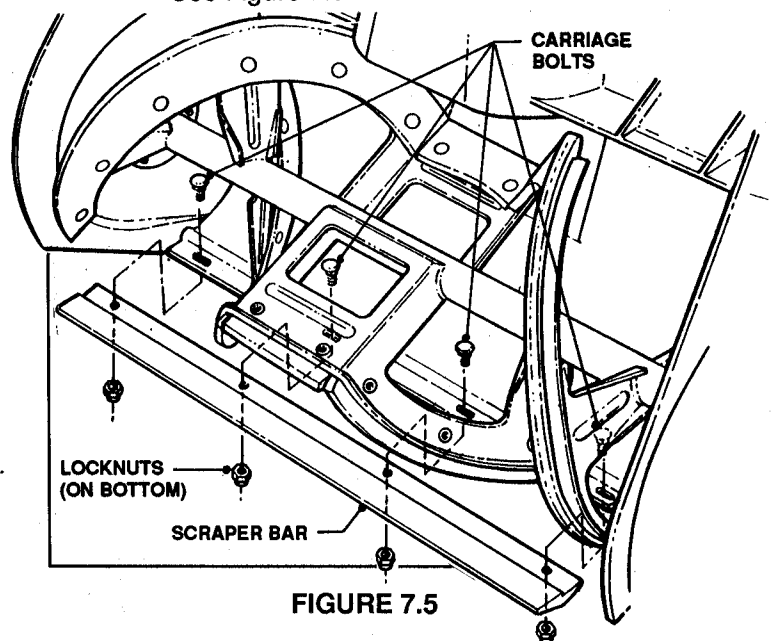

FIGURE 7.5
- (1) Tilt Snow Thrower back on Handlebar.
- (2) Drill out Scraper Bar retaining rivets (use a 5/16" drill to just "touch" the rolled-ends of the rivets - this will separate the caps, allowing the rivets to be removed). See INSET - Figure 7.5.
- (3) Install new Scraper Blade with kit hardware. (KIT #61235 - 17" - #61236 - 19"). See Figure 7.5.